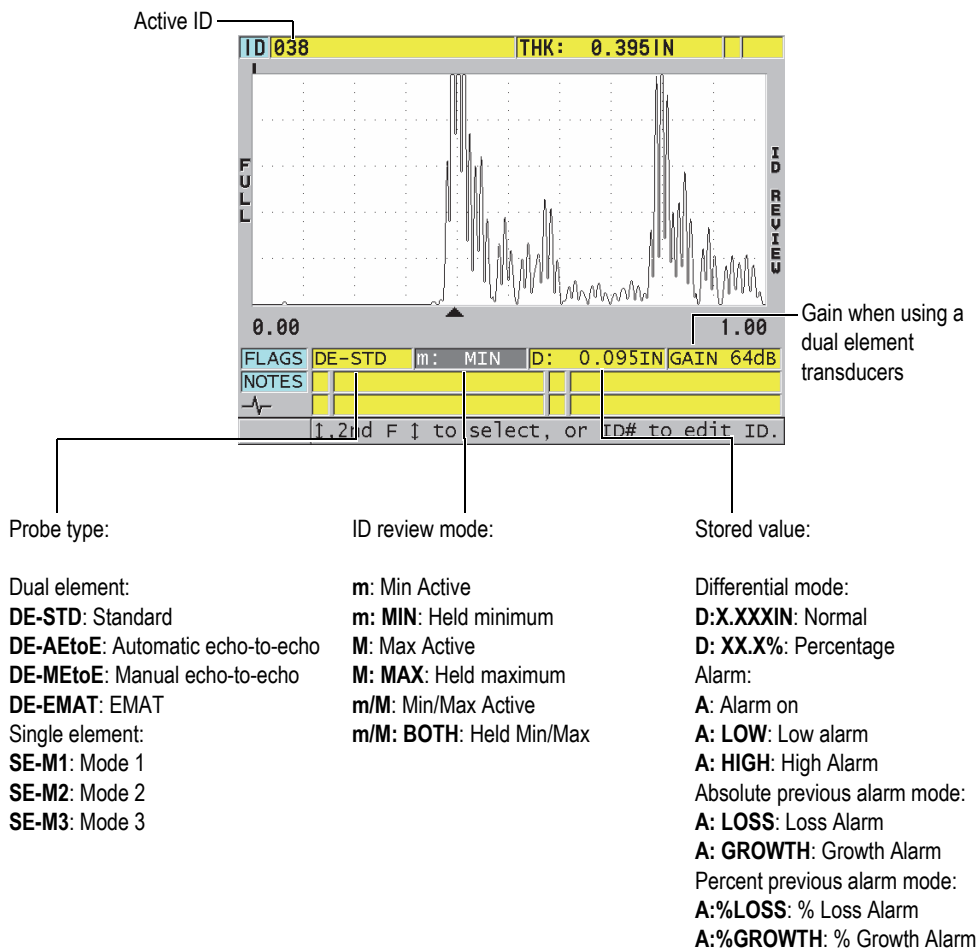

Figure 11-27 Identifying the ID review screen
Figure 11-27 on page 218 shows an example of ID review screen and describes its contents. The area under the waveform is reserved for status flags describing the displayed stored thickness values. The flags are the same single letter abbreviations for status words that are transmitted by the gauge using the send commands (see “Managing Communications and Data Transfer” on page 263).
3. While in the ID review screen (see Figure 11-27 on page 218):